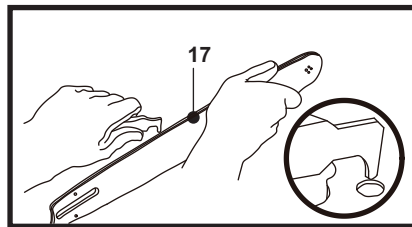

Fig. 15
1. Disassemble the saw chain (16) and the guide bar (17) in reversed order from assembly.
2. Check the drive sprocket (11). If it is worn or damaged due to strain, have it replaced by an authorised service agent or a similarly qualified person.
3. Clear residue from the rails on the guide bar (17) by using a screwdriver, putty knife, wire brush or other similar tool. This will keep the oil passages open to provide proper lubrication to the saw chain (16) and the guide bar (17) (Fig. 15).